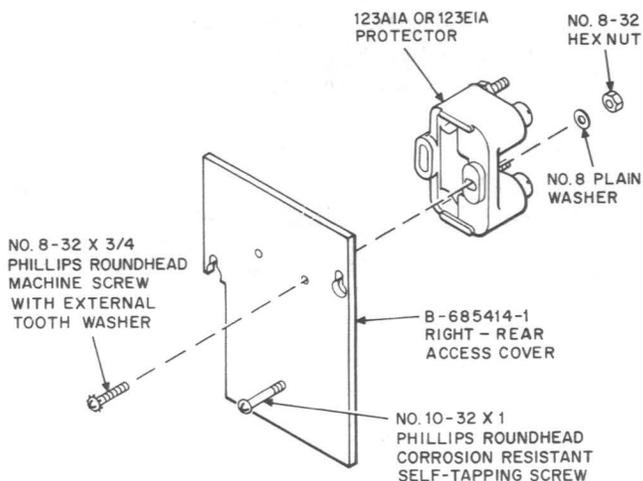

Fig. 22—Assembly of 123A1A or 123E1A Protector on Right-Rear Access Cover
4.19 The protector is mounted on the access cover in the top right-rear corner of the booth (Fig. 22).